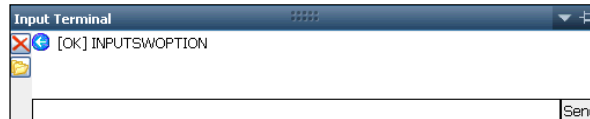

Figure 16: Successful Software Options Upload
The *Input Terminal* window also displays the outcome of the upload (see Figure 16). In the example below, the upload is successful. Refer to the *Sapphire Technical Reference Manual* for detailed information on the INPUTSWOPTION command (see *Related Documents* in the fore-matter).
45. Click *Send* on the *Input Terminal* window. If the software options loaded successfully, the *Input Terminal* window displays a confirmation message (see Figure 16).